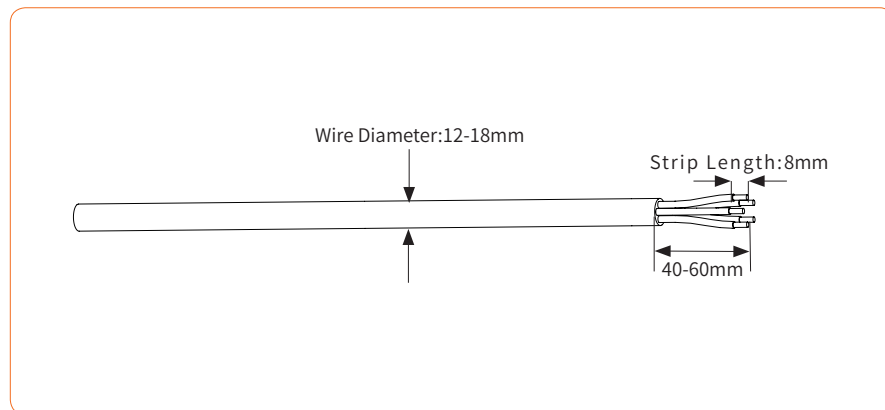

Figure 4-27
① According to the table above, select an appropriate AC cable, peel off the insulation sleeve of AC cable for 40~60mm, and peel off the sleeve in the conductor core of 3L/PE/N wires for 8mm, as shown in Figure 4-27: